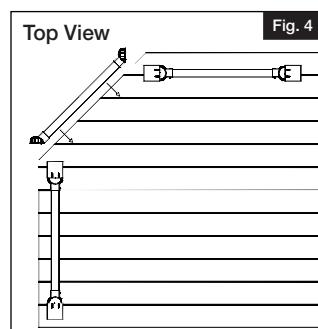

Fig. 4
- Position the rail section between the posts (Fig. 4).